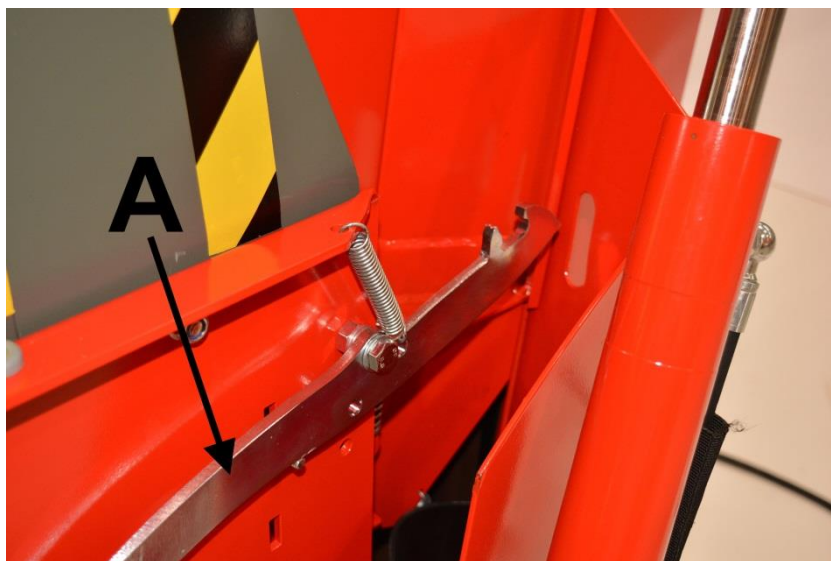

Figure 7.
3. Keep lock A (Figure 7) open and lower the out-feed conveyor to its lowest position with the winch.